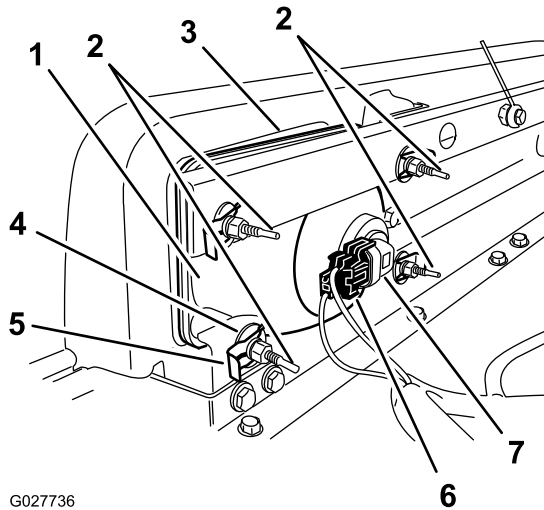

Figure 50
3. Disconnect the electrical connector for the harness from the connector of the lamp assembly (Figure 50).
2. At the back of the headlight assembly, rotate adjustment screws (Figure 50) to pivot the headlight assembly and align the position of the cast beam.
4. Remove the speed clips and washers that secure the headlight to the headlight bracket (Figure 50).
5. Remove the headlight assembly by moving it forward through the opening in the front bumper (Figure 50).
6. Install the new headlight through the opening in the bumper (Figure 50).
8. Connect the electrical connector for the harness to the connector of the lamp assembly (Figure 50).